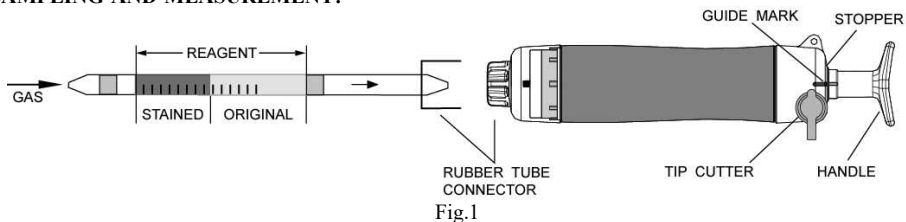

Fig.1
- ① Break both ends of the detector tube.
- ② Insert the detector tube into aspirating pump securely as shown in Fig.1. (Arrow mark shall point to the pump.)
- ③ Align the guide marks on the shaft and stopper of the aspirating pump.
- ④ Pull the pump handle at full stroke locked position and wait for 1 minute or until the completion of sampling is confirmed with the flow indicator of the pump (See descriptions about the flow indicator in the instruction manual of the pump).
- ⑤ On completion of sampling, read the scale at the maximum point of the stained layer.